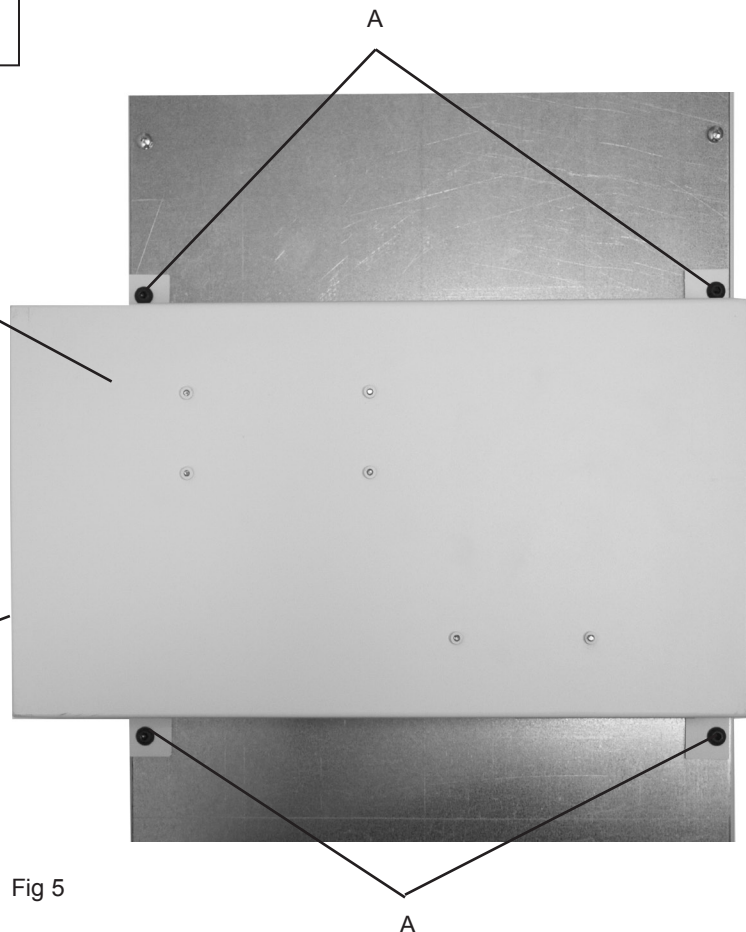

Fig 5
1. Remove the four Phillips head screws that hold the control panel module in place (Fig 5 items A).